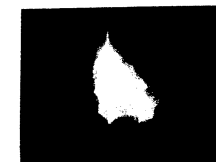

Fig. 5
8. Next, when the waveform in Fig. 3 is obtained, turn the adjustment tool clockwise from that position at which the waveform in Fig. 3 appeared and adjust so that the waveform is a straight line with a phase difference of 180° . (See Fig. 5)
9. Once the state indicated by the waveform in Fig. 5 is obtained, hold the STOP button down temporarily, and remove the connection between test point **TP2** (TEST) pin and the **GND** as well as that between test terminal (CN15) **TOFF** pin and **GND**.